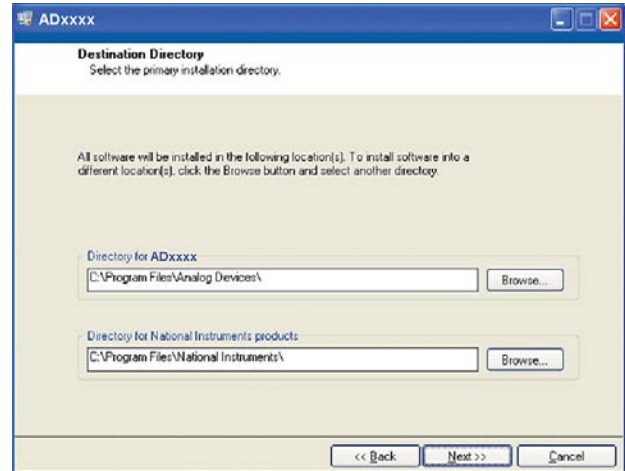

Figure 4. Evaluation Board Software Installation: Selecting the Location for Software Installation
4. Select the location to install the software, and then click **Next**. Figure 4 shows the default installation locations, which are displayed when the window opens. To select a different installation location, click **Browse**.